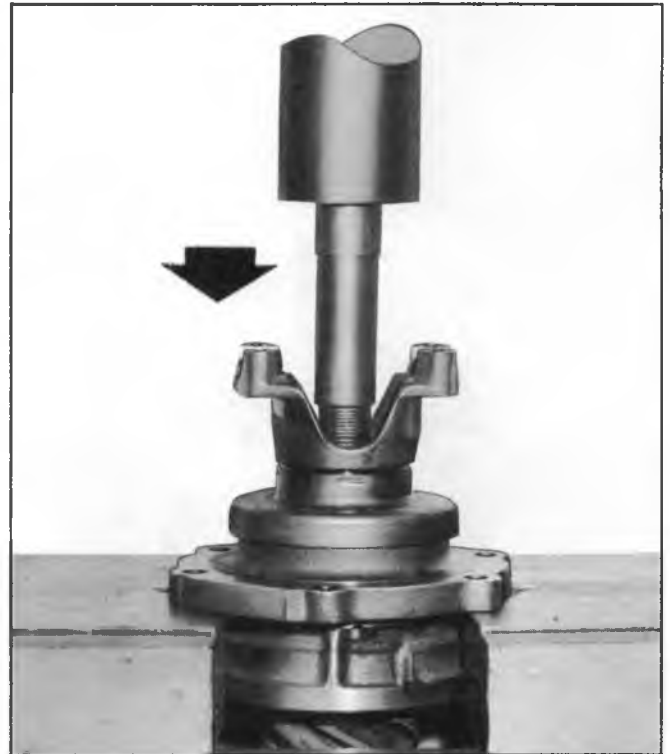

Fig. 8J--Removing Pinion from Retainer
2. Position retainer and pinion assembly in an arbor press with retainer resting on bed of arbor. Press pinion downward and out of retainer (fig. 8J). Remove pinion front bearing inner race from the retainer and remove bearing spacer from pinion-discard spacer.